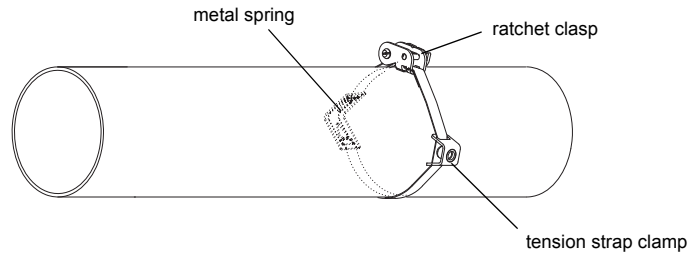

Fig. 8.38: Tension strap with metal spring, the ratchet clasp and tension strap clamp on the pipe
- Place the tension strap around the pipe (see Fig. 8.38).